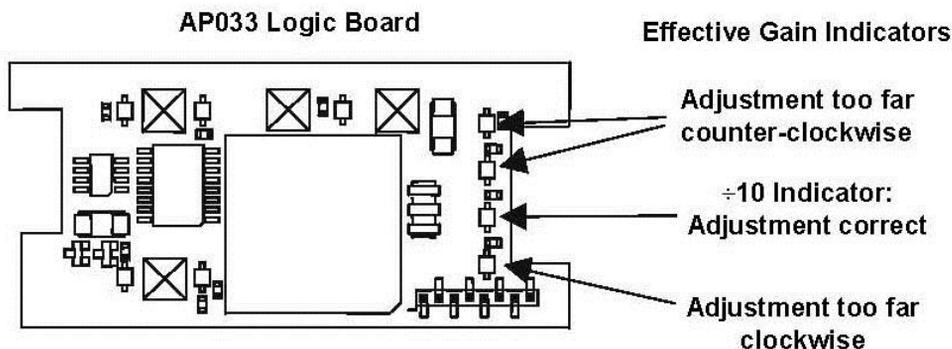

Figure 10, ±11Effective Gain Indicator
5. Using a low capacitance screwdriver, adjust **Coarse DC Bal** (R226) on the Amplifier Board for an output voltage of  $0\text{ mV} \pm 10\text{ mV}$  (Figure 10).
7. Using a low capacitance screwdriver, adjust **Fine DC Balance (R304)** until the **10 EFFECTIVE GAIN** indicator lights (Figure 10).